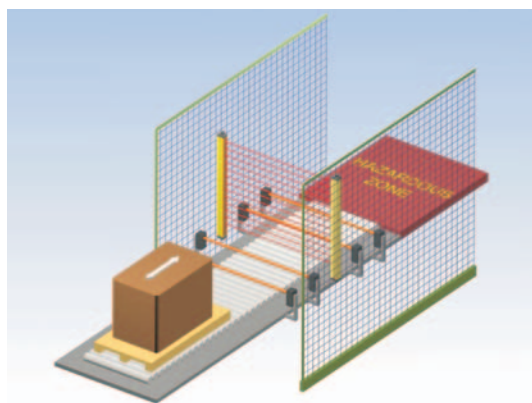

Figure 4a
- To prevent a person from reaching the hazardous area, while the pallet is passing through the muting area, the distance between the edge of the pallet and the side guard of the access point (or the body of the muting sensors if they protrude) must be less than 200 mm (see Figures 4a and 4b).